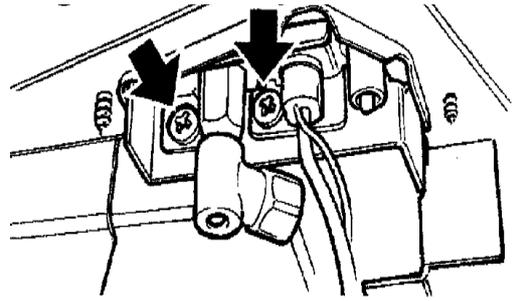

Figure 44. Pilot unit removal
5. Remove the first screw securing the dust cage to the pilot unit & burner. Carefully remove the dust cage and place aside (See figure 44).
6. Remove the second screw securing the pilot unit to the burner. Remove the pilot unit and place it aside (See figure 44).